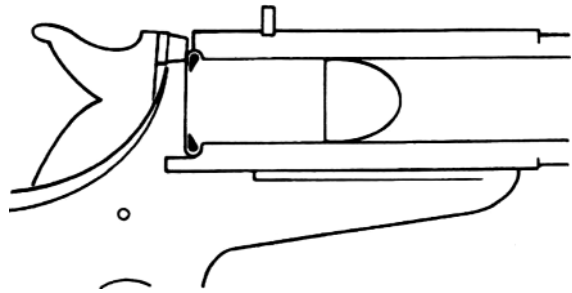

Figure 1.0.7 The rimfire system.
1.0.5 The rimfire system (Figure 1.0.7)